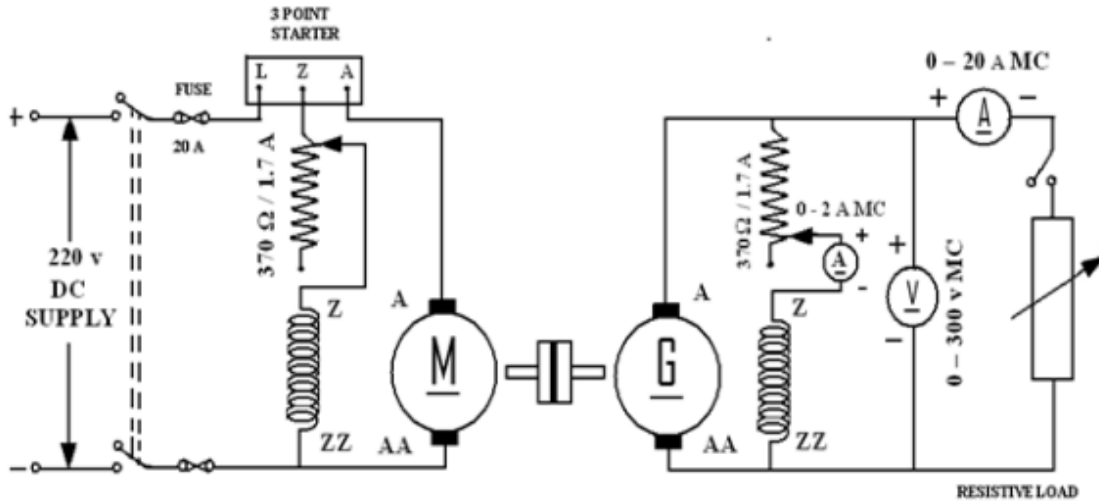

Figure 2 - LOAD TEST ON DC SHUNT GENERATOR
1. Calculate the different armature currents (i.e I_a equal I_L plus I_f) for shunt generator under various loads in figure 2.